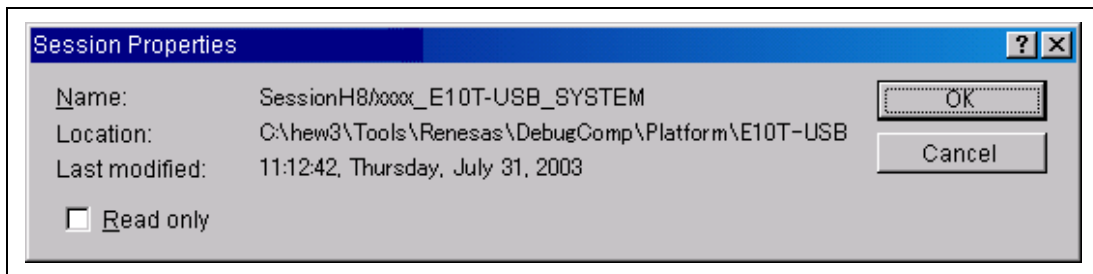

Figure 4.30 [Session Properties] Dialog Box
3. Click the [Properties] button to display the [Session Properties] dialog box (figure 4.30).